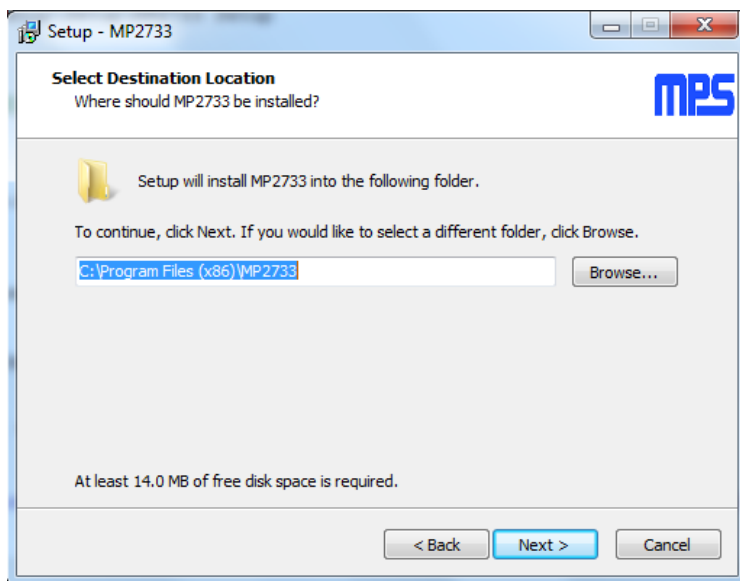

Figure 4: MPS I²C GUI Set-Up Guide
2. Double-click the .exe file to open the set-up guide (see Figure 4). If a protection window comes up, click “More info,” then click “Run anyway.”